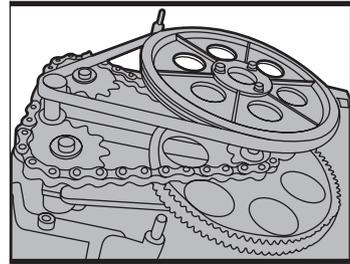

Fig 28
- Wrap the mains lead carefully around the cable clips (21). This will reduce the risk of tripping and / or damage to the cable.
4. After 10 hours running. (See Fig 28)